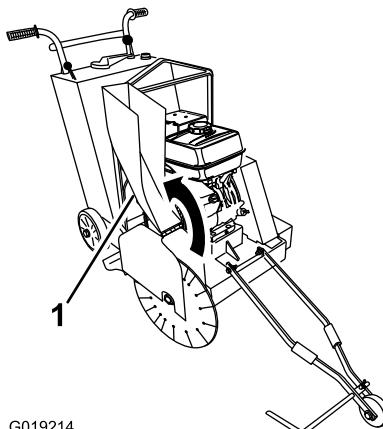

Figure 15
6. Rotate the forward section of the blade guard open (Figure 15).